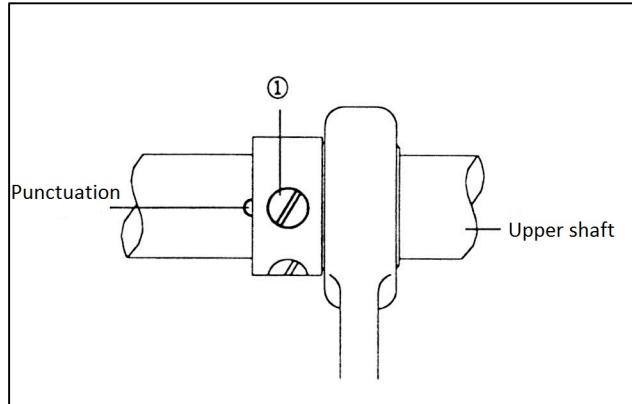

Fig. 19
Set position of the driving cam to be in line with the punctuation point on the shaft and tighten the screw (1). (see fig. 19)